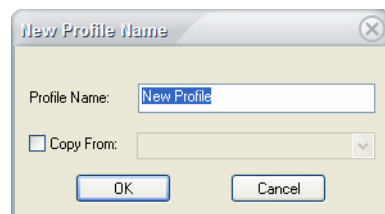

Figure 12-2: New Profile Name screen
- 2) Click **+** (New Profile). The New Profile Name screen appears. See Figure 12-2.